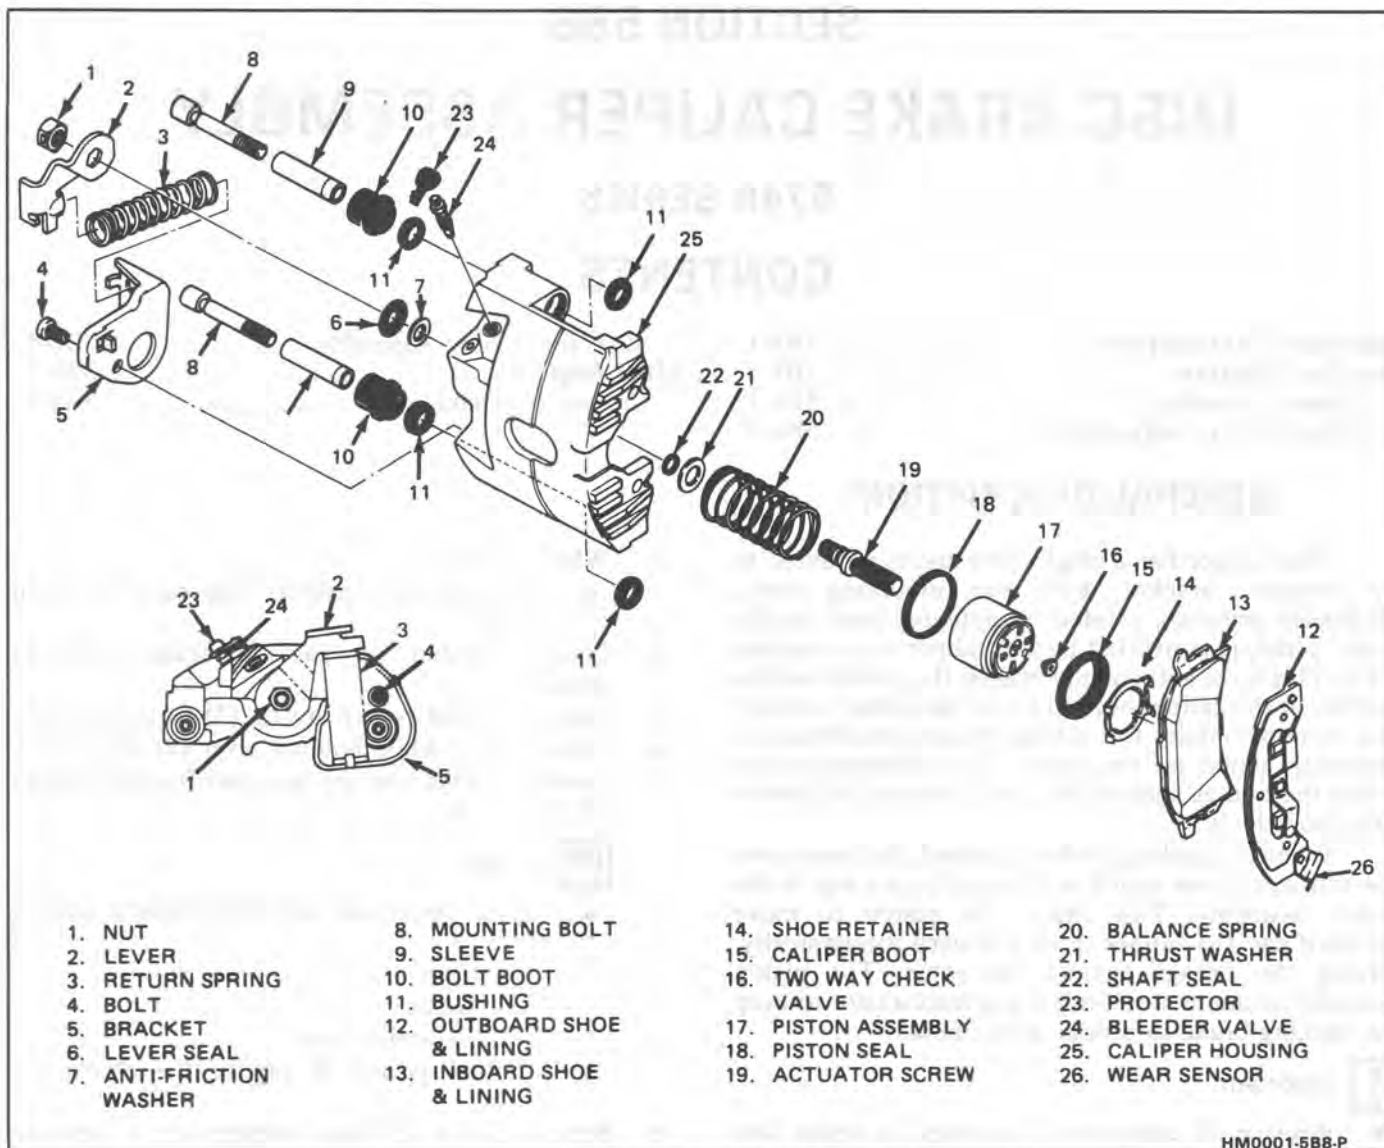

Fig. 1 Caliper Assembly
8. Bottom piston (17) into caliper bore to provide clearance between linings and rotor (Figure 1).
- Contamination from caliper surface in area of lever seal (6) and around actuator screw (19) (Figure 1).
8. Lubricated lever seal (6) with sealing bead against caliper housing (25) (Figure 1).
10. Nut (1), while holding rotated lever (2) toward front of car, to 40-55 N·m (30-40 lb.ft.). Rotate lever back against stop on caliper (25) (Figures 1 & 2).